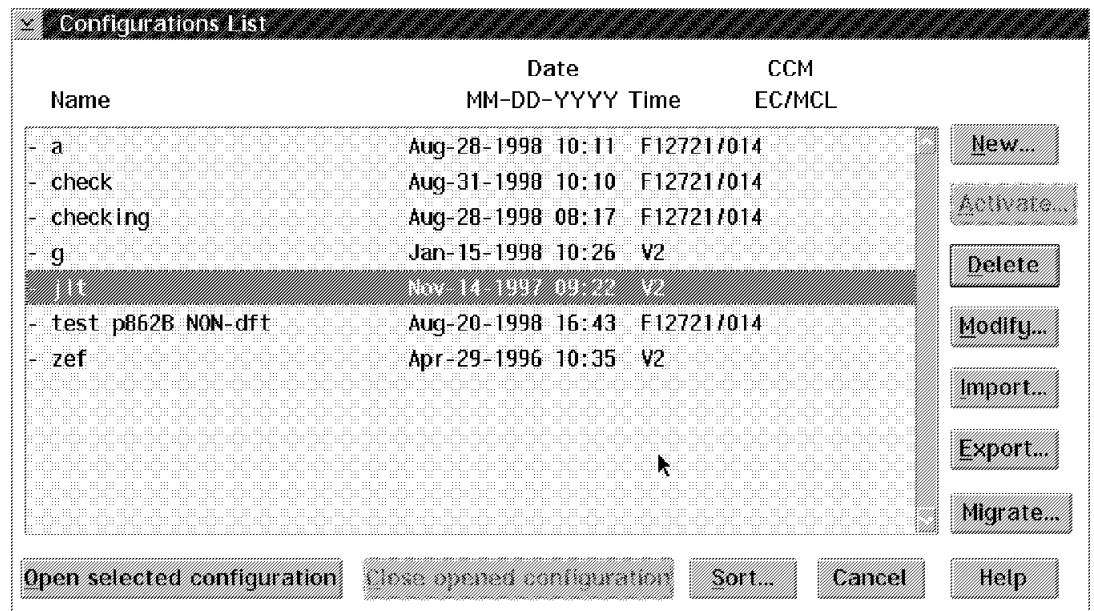

Figure 3-2. Configurations List
- Step 2.** From the configuration list, select the configuration you want to modify (see Figure 3-2 on page 3-5).